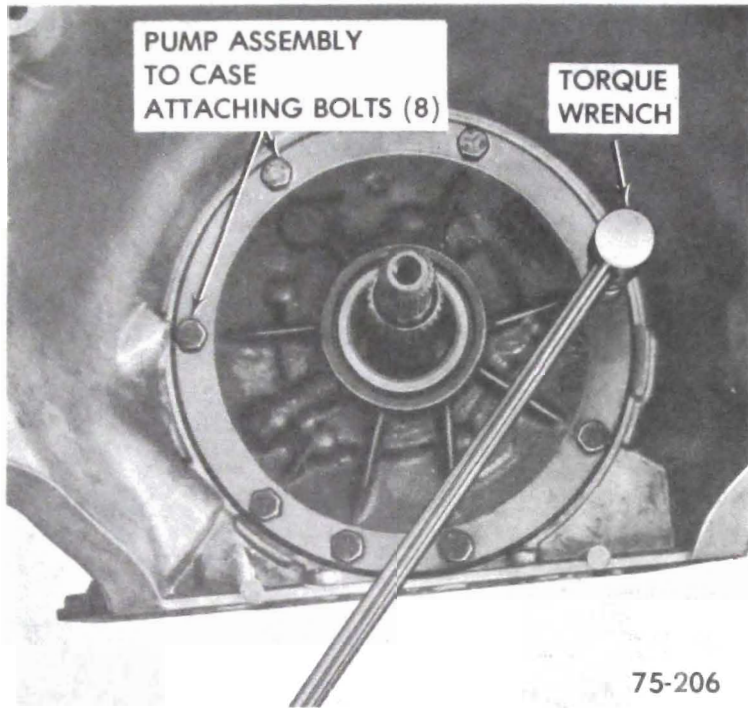

Figure 75-251
1. Install guide pins into case. See Figure 75-251.
3. Install pump assembly into case. Install attaching bolts with new washer type seals. Torque to 20 lb.ft. See Figure 75-251.